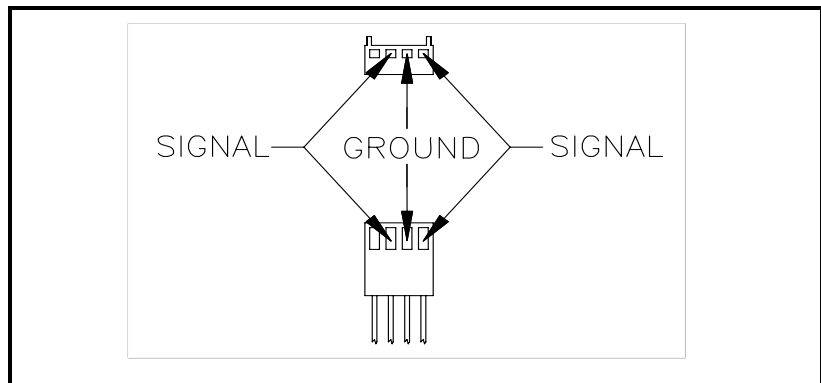

Figure 5-2: Measuring Resistance - Sensor Pin to Meter Ground
3. Using ESD precautions and hazardous area precautions, remove the electronics enclosure window cover. Disconnect the vortex sensor from the Signal board. Measure the resistance from each Sensor pin to the meter ground - each should be open (see Figure 5-2 below). Measure the resistance from the Ground pin to the meter ground – this should be grounded to the meter. With the sensor still disconnected, go to the first column of the hidden diagnostics and display the vortex shedding frequency, f . Hold a finger on the four exposed pins on the Signal board. The meter should read electrical noise, 60 Hz for example. If all readings are correct, re-install the vortex sensor wires.